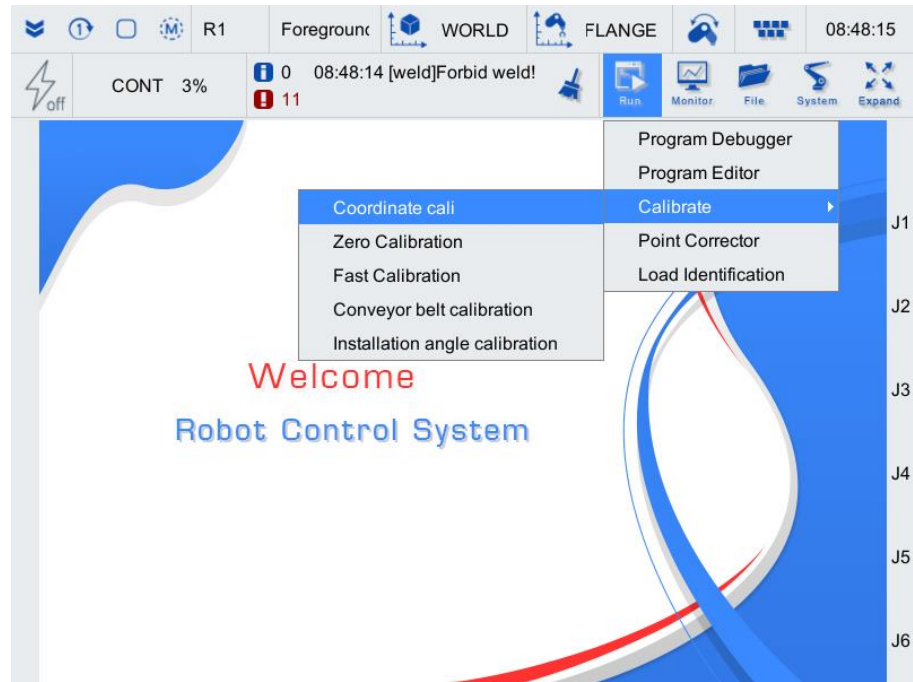

Figure 5-1 The main interface of the teach pendant
Step1. Click [Run/Calibrate/Coordinate cali] on the upper right of the main interface of the teach pendant (as shown in Figure 5-1) to enter the [Coordinate System Measurement] interface.